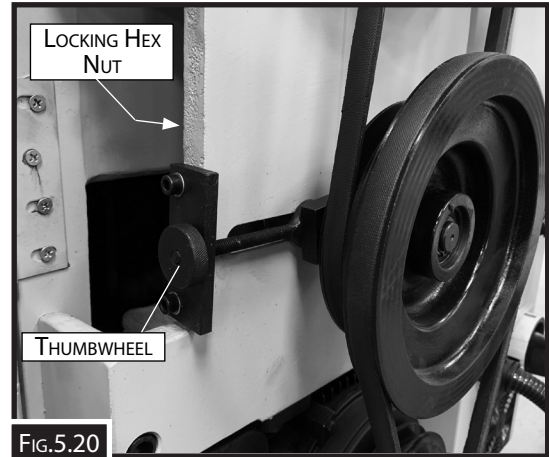

FIG.5.20
4. Loosen tension thumbwheel and hex nut behind lower idler pulley bracket. (Fig.5.20)
NOTE: The horizontal spindle speed chart (Fig.5.18) is also on side of the ram. Apply pressure on lower idler pulley to the left as you tighten tension thumbwheel. (Fig.5.20) The V-belt tension is correct when approximately 6-12mm deflection is achieved by applying moderate pressure midway between pulleys.
7. Retighten hex nut behind lower idler pulley bracket. (Fig.5.20)